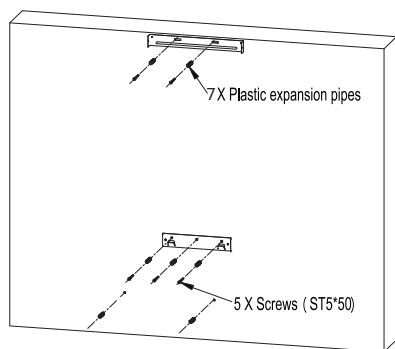

Fig.4
- Fix installation plate and extension chimney installation plate, install the plastic expansion pipes of safety screws on wall. See Fig.4.